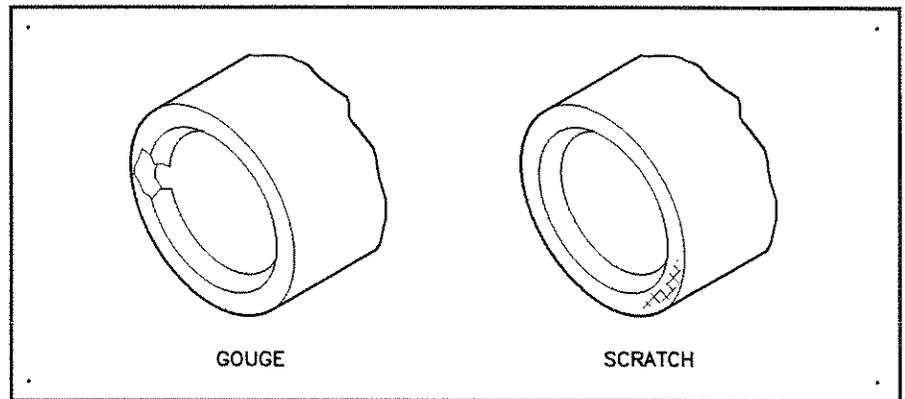

Figure A-15. Damaged Center Conductor
2. Refer to Figure A-15. Is the center conductor gouged? Does it have any imperfection that would interfere with the insertion of a new inner contact? If so, you must return the device to Hewlett-Packard for repair; you cannot repair a center conductor with either kit.